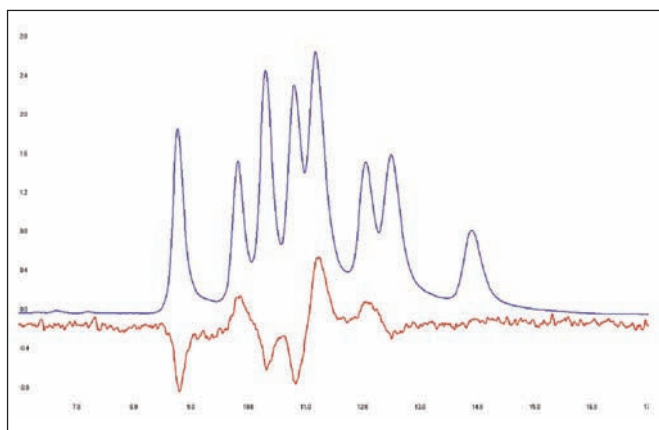

Figure 5: SFC separation of Cypermethrin with 3 chiral centers, SFC
absorbance detectors (UV) and much less sensitive than mass spectrometers (MS). However UV and MS do not offer insight into optical activity. We use Advanced Laser Polarimeters (ALPs) to track enantiomer elution order, differentiate enantiomers from impurities, identify components in multiple chiral center compounds, detect compounds without chromophores, and control peak collection in HPLC/SFC purification. See Figure 5 where an ALP was used to purify cypermethrin enantiomers using SFC. Cypermethrin has three chiral centers and eight enantiomers. There are no commercially available cypermethrin single enantiomer standards. The ability of ALP to identify enantiomers by peak polarity and area was a big help in interpretation of UV chromatograms and peak identification for prep scale separations. The last peak in this chromatogram is an impurity, not a cypermethrin enantiomer. This was easy to
See Figure 5 where an ALP was used to purify cypermethrin enantiomers using SFC. Cypermethrin has three chiral centers and eight enantiomers. There are no commercially available cypermethrin single enantiomer standards.